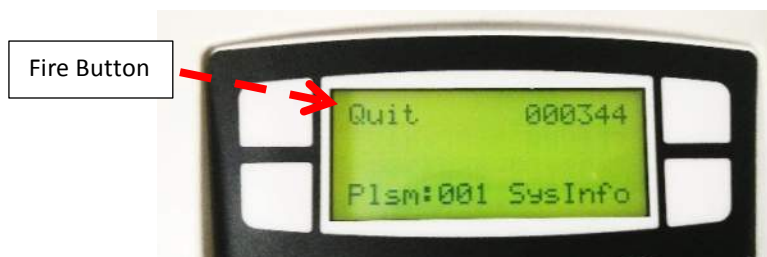

Figure 8 - Plasma Firing Screen
- 38. The .txt file output is designed for easy copy and paste into any spreadsheet program, or to be imported as a tab delimited file as shown below in Figure 8.